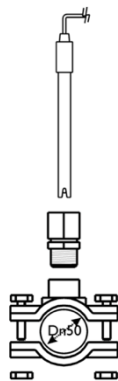

Fig. 3
- a) Saddle for the pH sensor (Fig. 3): Before installation, drill a hole in the top of the pipe with size approx. 12 mm and make sure the sensor can pass through. Install the saddle so that the hole in the pipe coincides with the sensor connection of the saddle.